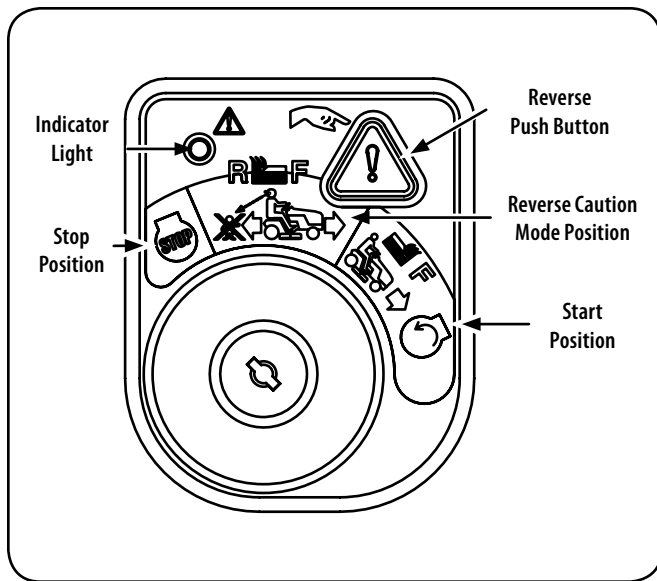

Figure 17
2. Turn the key from the NORMAL MOWING  (Green) position to the REVERSE CAUTION MODE  (Yellow) position of the key switch module. See Figure 17.
3. Press the REVERSE PUSH BUTTON  (Orange, Triangular Button) at the top, right corner of the key switch module. The red indicator light at the top, left corner of the key switch module will be ON while activated. See Figure 17.